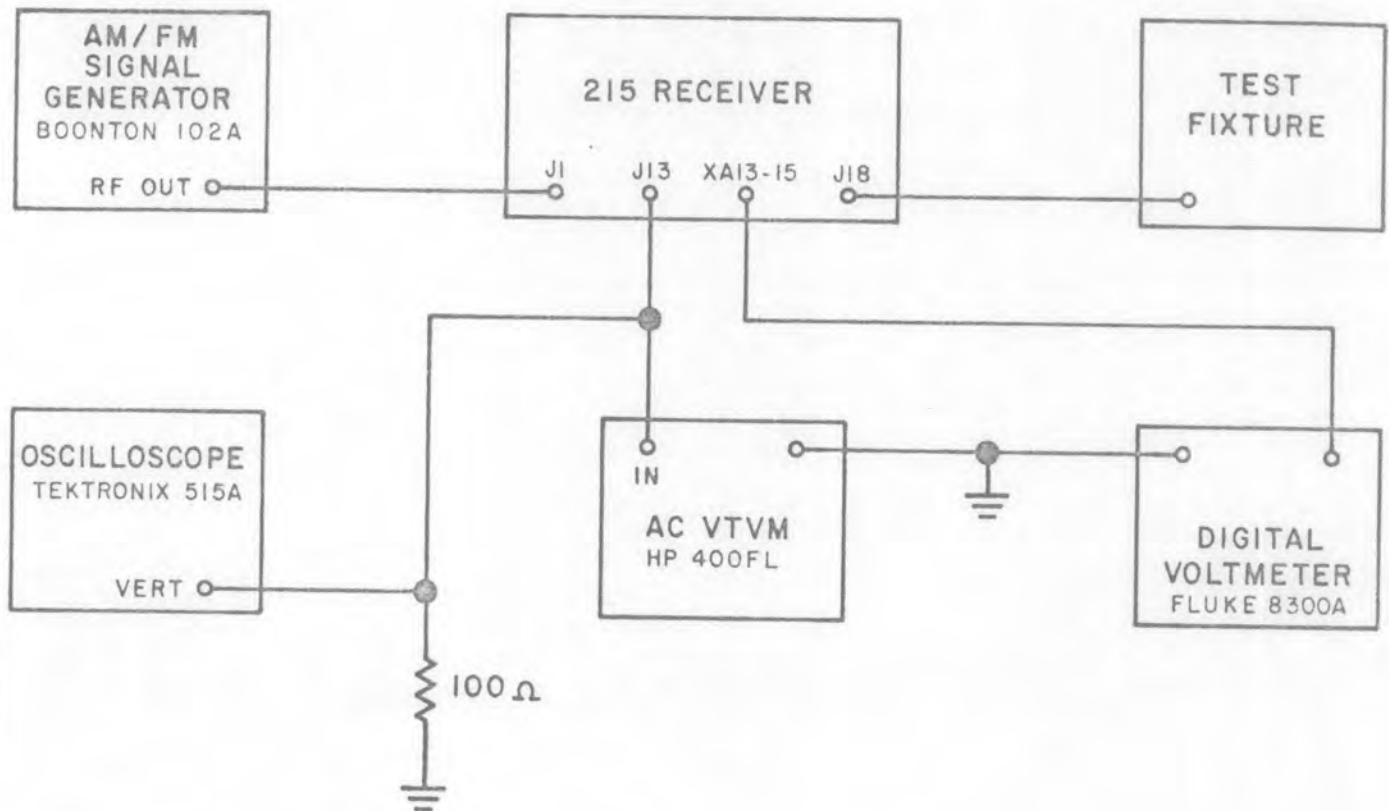

Figure 4-11. Test Setup, Remote AGC Dump and Tuning Speed Check
- (1) Set the remote AGC mode switch to AVERAGE.
- (2) Connect the test equipment as shown in Figure 4-11.